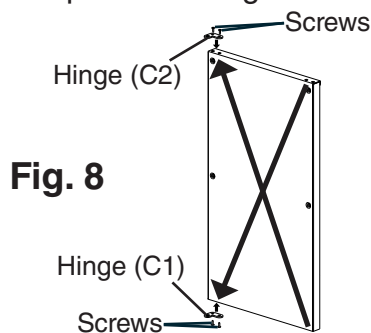

**Fig. 6**
- d) Remove hinge (B) from the right side of the appliance and the 2 filler screws from the left side. Attach the 2 filler screws to the right side and attach hinge (B) to the left side. See Fig. 6.